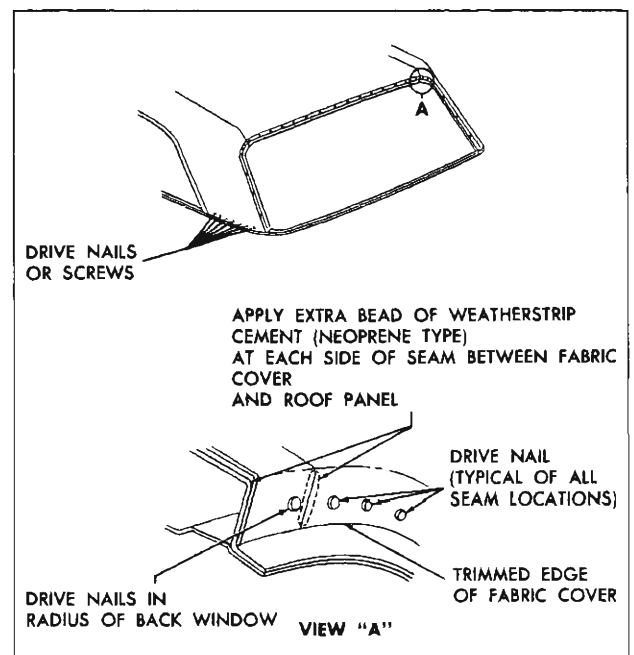

Fig. 106—Drive Nail Installation
15. At windshield and back window openings cement cover into openings as shown in View "A", Figure 106.
panel at windshield and back window openings. (View "A", fig. 106).
16. Install drive nails at windshield and back window openings. (View "A", fig. 106 shows typical drive nail installation.)
18. Trim off material at windshield, back window, and rear quarters. View "A" in Figure 106 shows where trimmed edge should occur in openings.